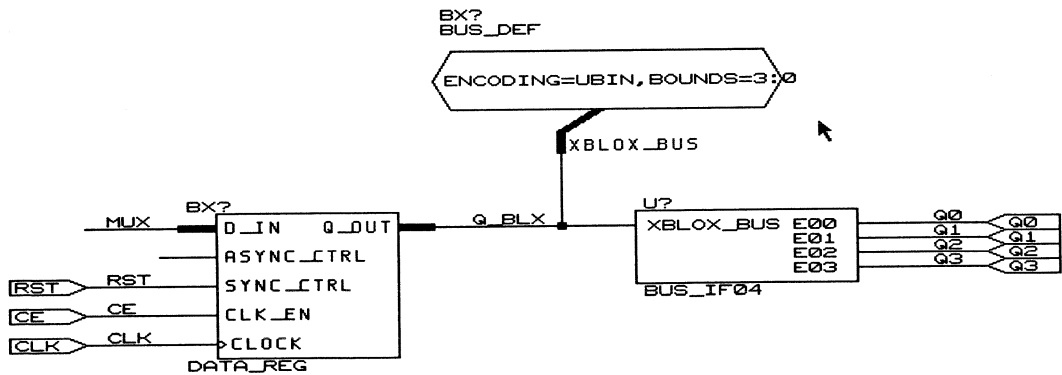

Figure 13-3 Adding ENCODING and BOUNDS Attributes
The BOUNDS attribute is placed on a BUS_DEF to define the width of the bus attached to the BUS_DEF, as shown in Figure 13-3. In this case, the data path has a width of four bits, giving "3:0" for the value of BOUNDS.
The definition of the ALU data path has not yet been set. Add the following properties to the BUS_DEF symbol attached to the bus named Q_B LX on the bottom of the sheet. Figure 13-3 shows the resulting BUS_DEF symbol with attributes defined.
5. If you wish, you can move the text inside the symbol as shown in Figure 13-3, by selecting **Edit** → **Edit** → **LOC,OPTIONS** or **OPTIONS_1** → **Location**, moving the cursor inside the BUS_DEF symbol, and selecting **Place**. The placement of the text has no effect on the function of the attributes.